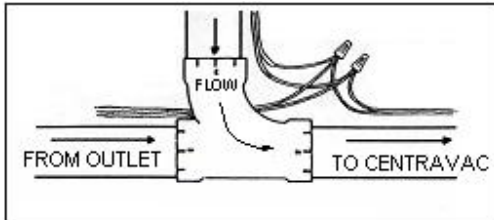

Fig. 19 90 Degree sweep tee
- **Always connect additional outlet valves to main trunk line with 90-degree sweep tee (Fig. 19).**